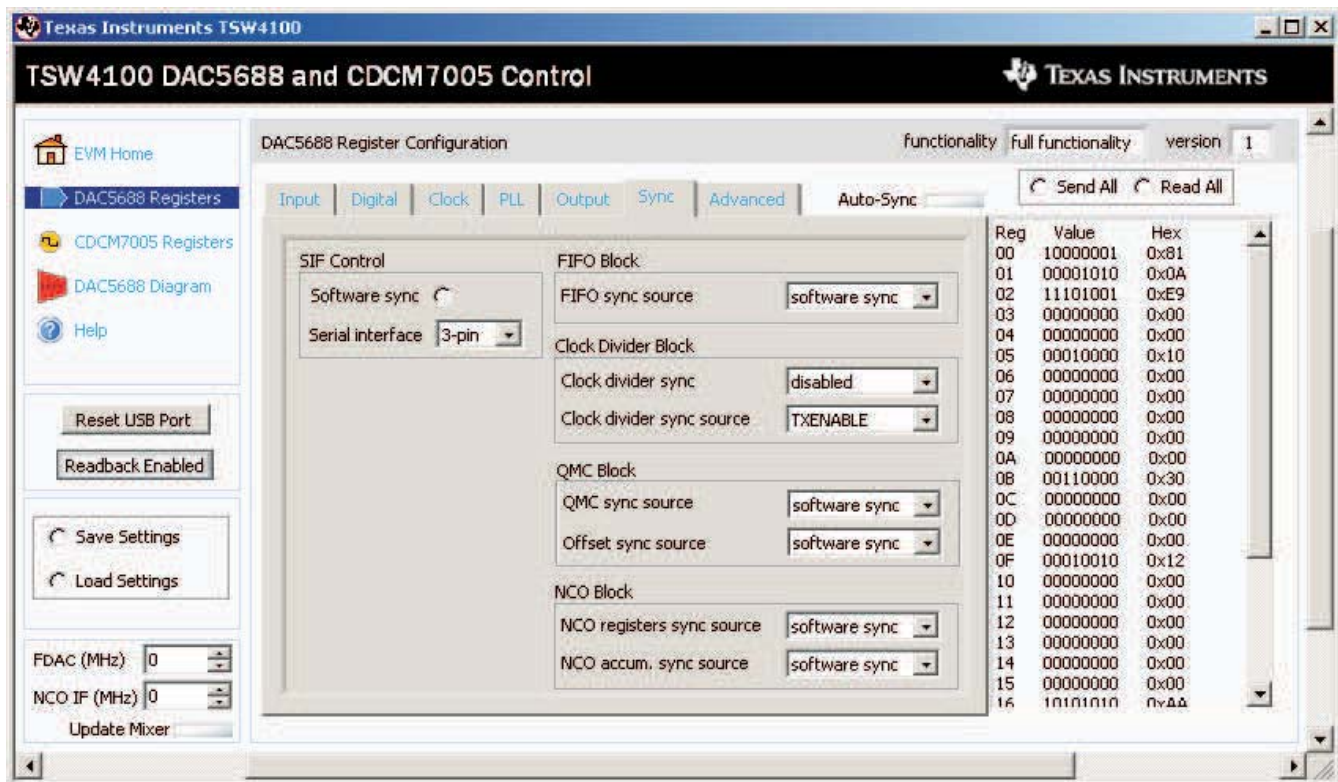

Figure 21. SIF Control
7. Click on the *Sync* tab. The GUI display shall now look as shown in Figure 21. In this window, the user can change the SIF control, the FIFO sync source, the Clock Divider, the QMC, and the NCO.